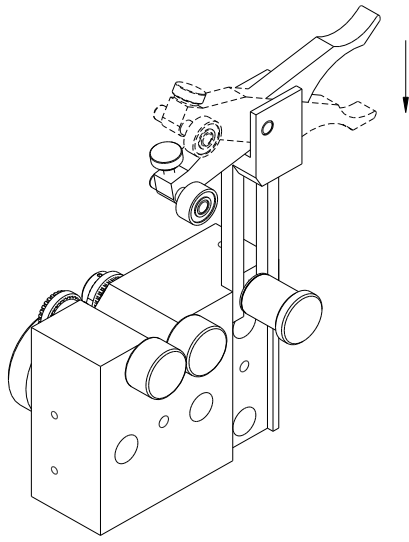

Figure 2. Yoke in raised position
3.0 Adjustable Yoke Assembly – (See Figures 2 and 3)